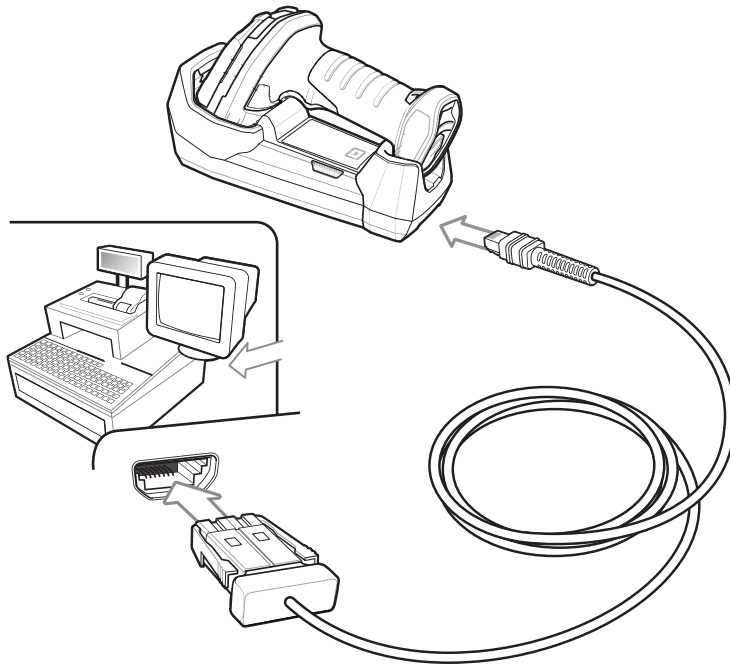

Figure 10-1 IBM Direct Connection
- ✓ **NOTE** Interface cables vary depending on configuration. The connectors illustrated in Figure 10-1 are examples only. The connectors may be different from those illustrated, but the steps to connect the cradle remain the same.